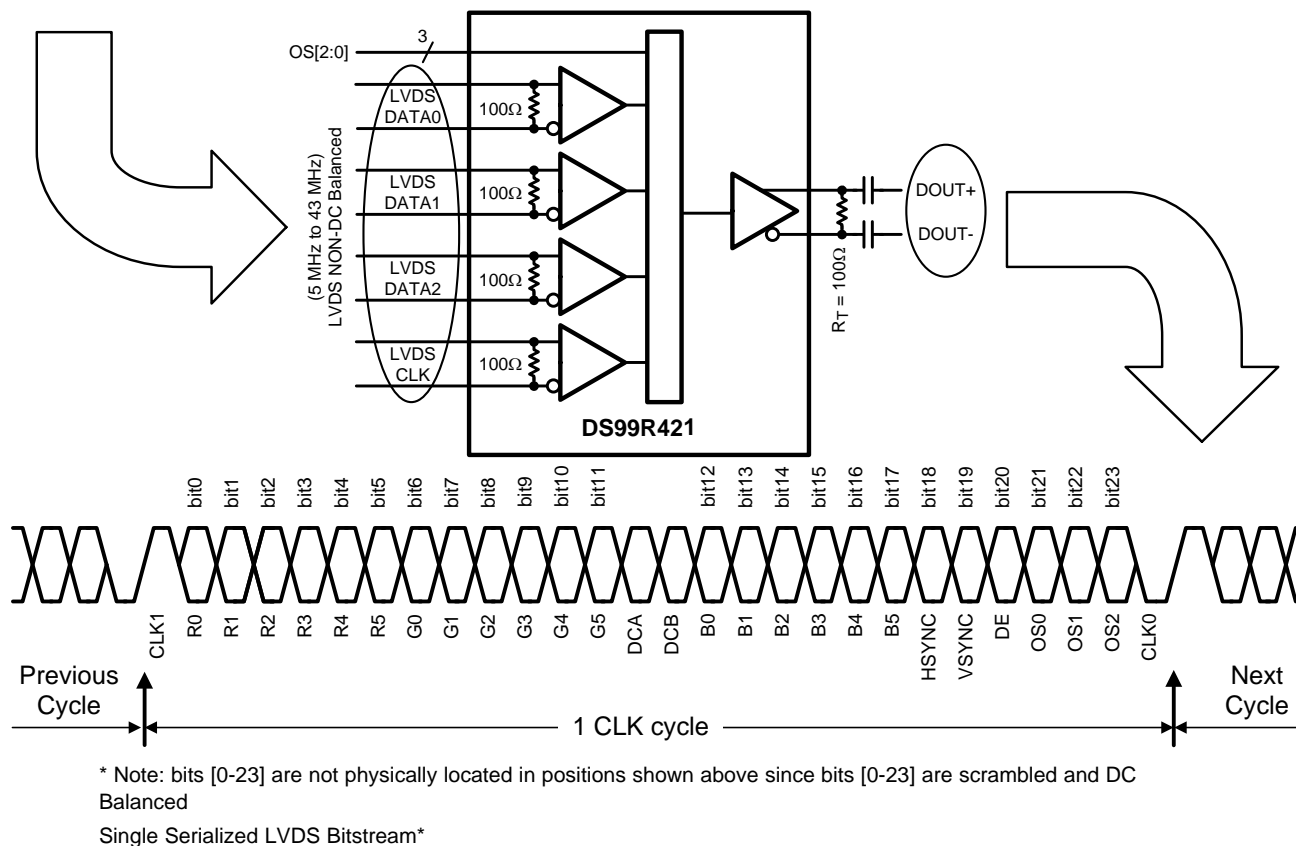

Figure 13. LVDS Data Mapping Diagram
The DS99R421 is a Video Interface converter. It converts an FPD-Link interface (3 LVDS data channels + 1 LVDS Clock, e.g. DS90C365A or equivalent) plus up to three (3) LVCMOS additional signals into a single high-speed LVDS serial Interface (see Figure 13).
Color mapping is application specific. It is very important to properly match the Pixel bit to the correct data channel on the DS90UR124 to properly recover the color and control information. See Figure 13. In this example, the G0 color bit is placed in the RxIN0 channel and is the first bit. The Serializer in the DS99R421 will place this bit as bit number 6. Thus G0 will be recovered by the DS90UR124 on bit 6. The three over sampled bits are mapped to DS90UR124 bits as: OS0 = bit 21, OS1 = bit 22, and OS2 = bit 23.